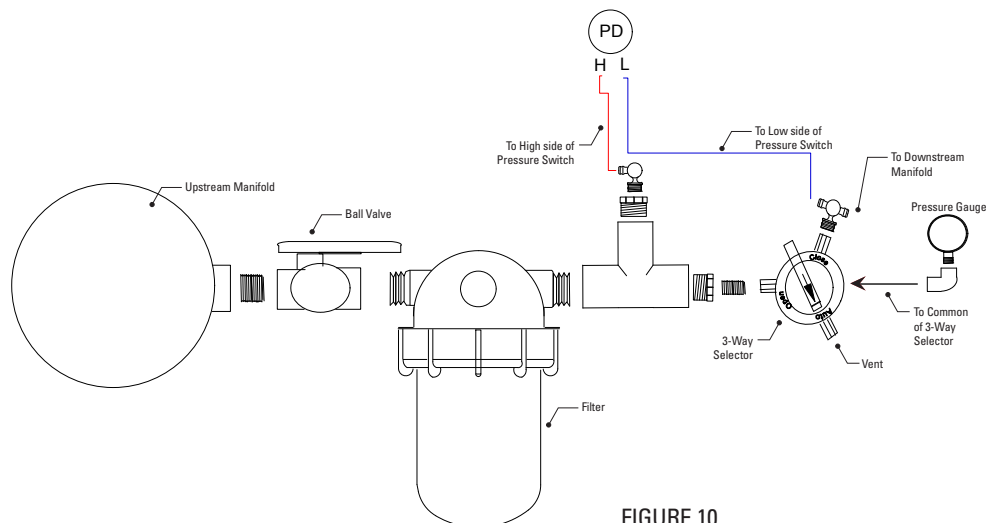

FIGURE 10
- The ball valve of the hydraulic assembly must be open on all media tanks. Check the High and Low pressure on the gauge by moving the 3 way to the HP and LP connections. Check the setting on the PD switch. (See Figure 10)